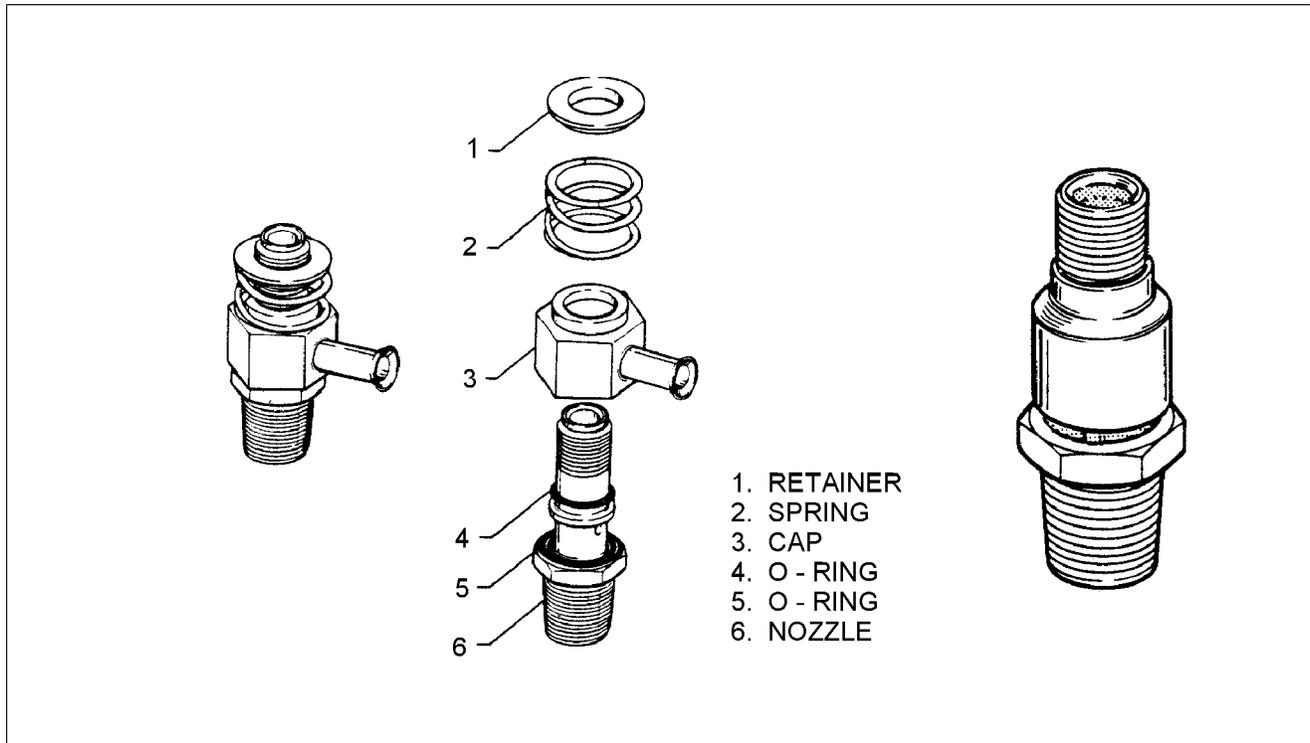

Figure 73-1. Fuel - Air Bleed Nozzle
B. Fuel Nozzle (Air Bleed) (Refer to Figure 73-1)